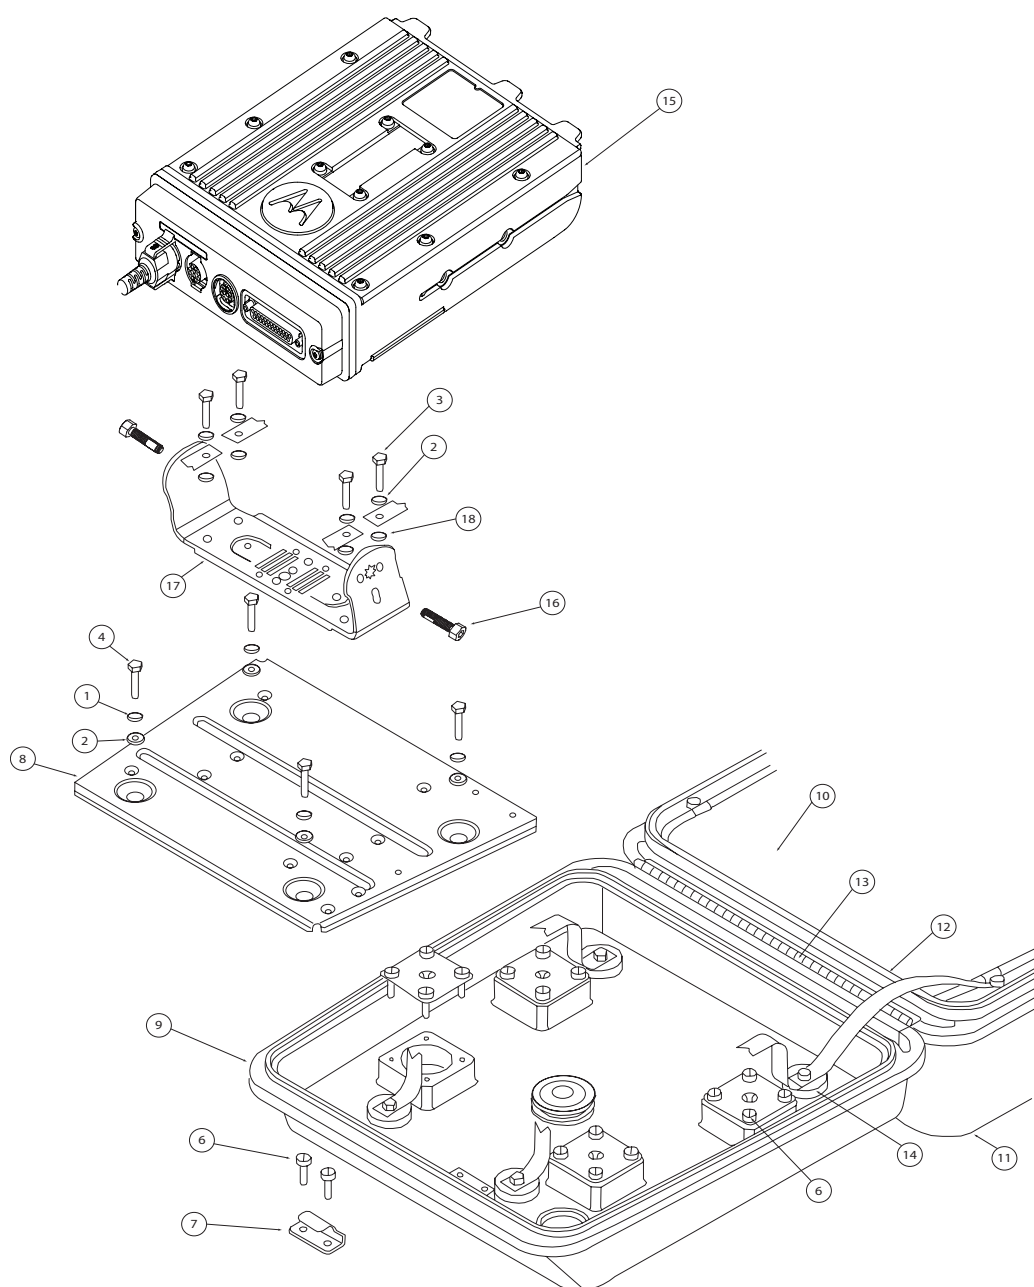

Figure 5-16. Installing the Transceiver
2. The weather-resistant enclosure is mounted to the universal mounting plate using shock mounts. Assemble the shock-mount components exactly as shown in Figure 5-14. Be sure to install ground straps between the shock-mount and the transceiver trunnion mount, and install one 7-1/2-inch ground strap between the right rear mount and the enclosure lid's antenna ground plane 0 (shown in Figure 5-14 and in Figure 5-16).
6. Figure 5-16 is an exploded view of the enclosure; it shows details that will help to understand how the enclosure is mounted. After the enclosure is completely mounted, check for proper ground connection—continuity between the antenna ground plane and the motorcycle frame.
Install the transceiver in the weather-resistant enclosure as follows (see Figure 5-16).
1. Install the mounting trunnion and loose ends of the four ground straps to the radio-mounting plate, using four screws, flat washers, and external-tooth lock washers (see Figure 5-16). The ground straps must be sandwiched between the flat washers and lock washers. The lock washer must be against the trunnion. The flat washer must be under the screw head.